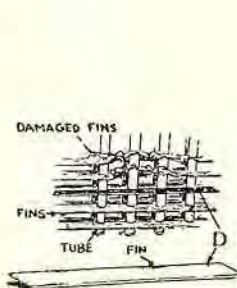

Fig. 94
Where the lateral fins of a tubular radiator (Ford type) have been removed for a repair, a false fin (D) may be made as shown in Fig. 94, by folding a ¾" strip of light brass, copper, or even sheet iron longitudinally upon itself to make a double strip ¾" wide. Bridge it across the gap in the fin or fins, and then paint the patched place the same color as the rest of the core.